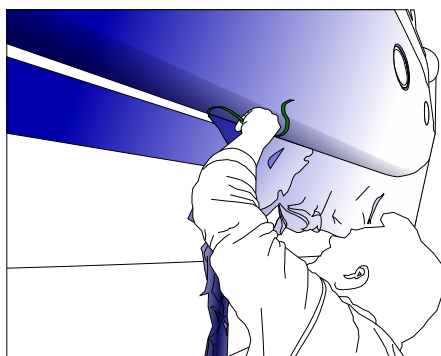

Figure 06
- › Proceed with the finishing cuts of any excess film (along the gunwale, hull, any openings,...) either with a CUTTER or by pulling the pieces of WRAPKNIFE applied previously. (FIG. 06)